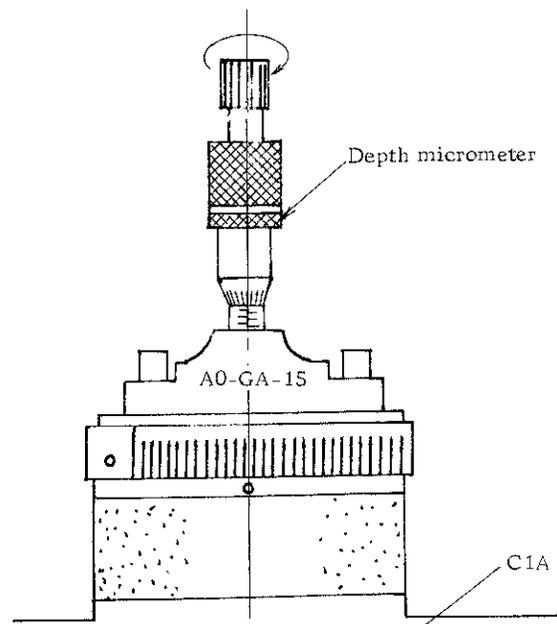
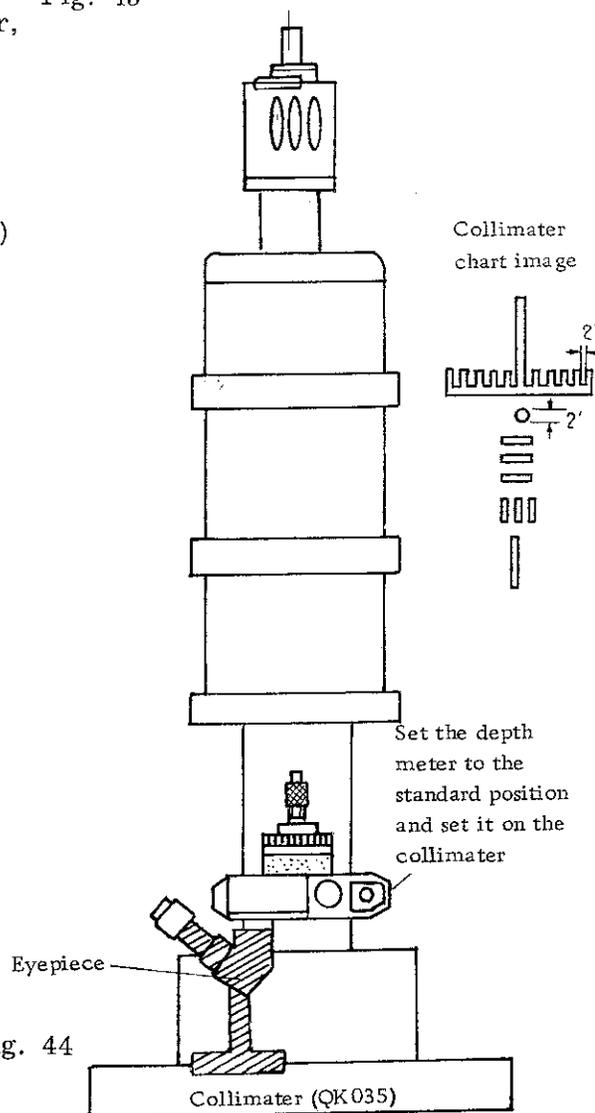
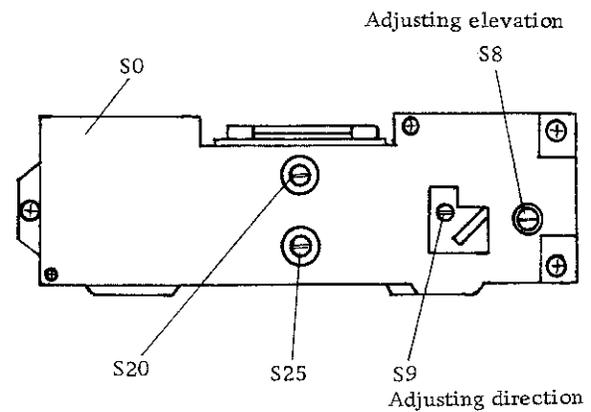

Fig. 43
Fig. 44
Fig. 45
Disassemble the top cover (E1A) in accordance with the instructions described in the para. I-1 above. Remove the lens barrel from the main body, and install a depth meter (A0-GA15) on the main body. Next, set the micrometer of the depth meter (A0-GA15) to " ∞ " (Standard position marked on the depth meter). (Fig 43) Further, install them on a collimator, and see the image in the range/view-finder (S0) with an eyepiece. (Fig. 44) When the direction is deviated, adjust the adjust screw (S9) correctly. When the elevation is deviated, adjust the adjust screw (S8), and coincide the image in the range/viewfinder. (Fig. 45) For all adjustments, the tolerance is zero.
-0.02 mm. (Fig. 45)